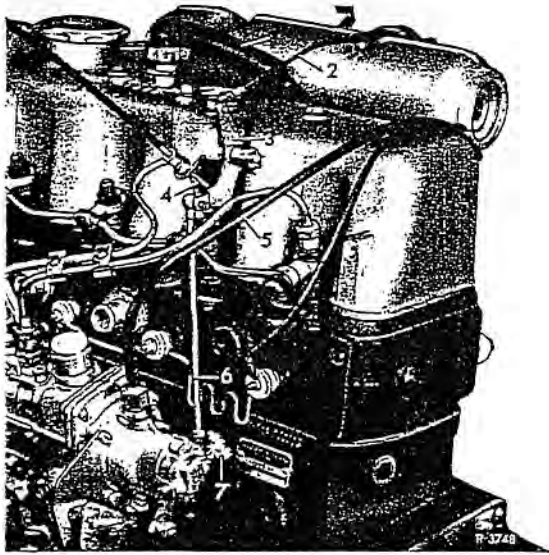

Fig. 00-19/1
emerge from the oil level check bore, back off the 4 fixing screws of the vacuum control housing, slightly lift the housing and let the fuel drain from the vacuum chamber (Fig. 00-19/4).
1. Turn idling control knob on instrument panel to extreme right so that idle adjustment cable (4) is sufficiently slack at angle relay lever (3) in this position; if necessary disengage setting ring and refasten (Fig. 00-19/1).
2. Connect revolution counter. Remove screw plug (oil pump drive) for this purpose and replace by adapter (1) (Fig. 00-19/2).
4. Adjust idling speed by screwing idle stop screw (4) at Venturi control unit in or out (Fig. 00-19/3). For idling speed see Job No. 00-0.
If the speed drop is insufficient, check vacuum line (5) for leakage (Fig. 00-19/1).